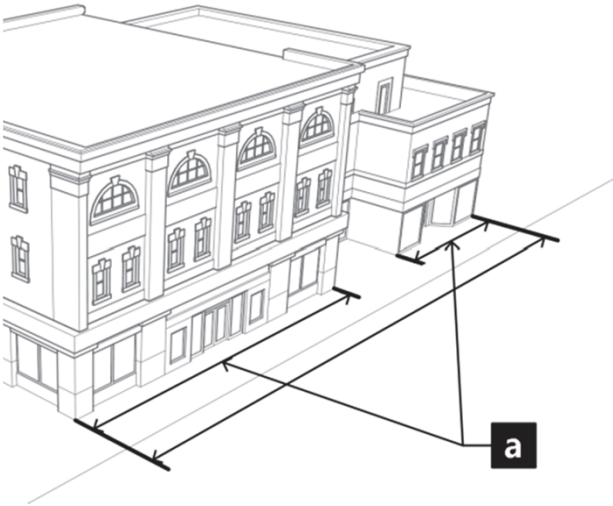

Figure 040-25: Zero Setback
2. Enclosures shall be a maximum of six (6) feet in height and shall have gated access for the collection of waste materials.
- (6) *Supplemental Site Design Standards: Downtown Core.* Development of any nonresidential or mixed-use structure in the Downtown Core shall comply with the general site layout and building design standards set forth above, plus the standards of this Subsection.
- a. *Building Edge to Sidewalk.* A minimum of seventy-five (75) percent of the building edge shall be located adjacent to the sidewalk edge (e.g., zero setback). (Figure 040-25)